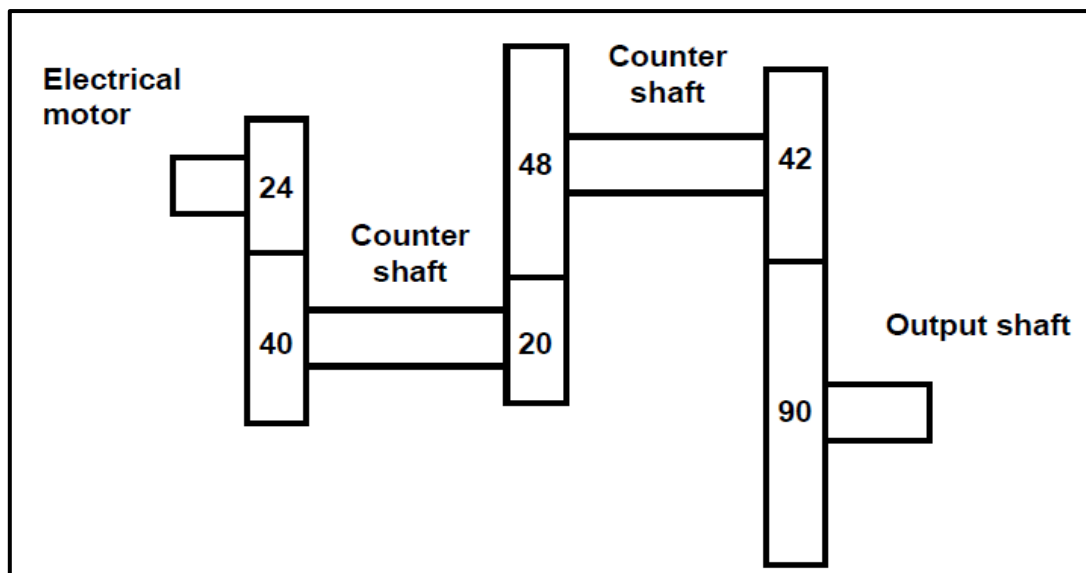

FIGURE 11.6
- 11.6 FIGURE 11.6 below shows a gear-drive system. A driver gear on the shaft of an electric motor has 24 teeth and meshes with a gear on a counter shaft with 40 teeth. On this counter shaft is another driver gear with 20 teeth that meshes with a gear with 48 teeth on a second counter shaft. The second counter shaft has a driver gear with 42 teeth which drives a gear with 90 teeth on the output shaft.